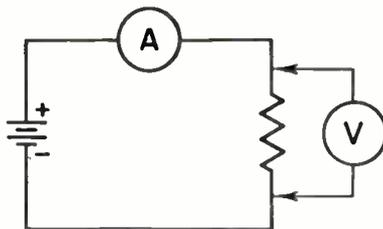

Fig. 4
5. In Fig. 4, meter A reads the current through the resistor R , while voltmeter V reads the voltage drop across R .